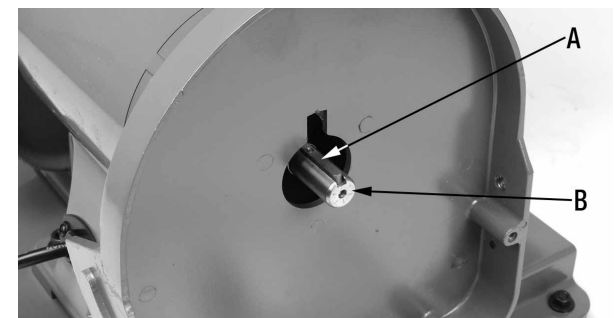

Figure 18
5. Make sure the keyway (A) Fig.18 on the motor shaft (B) is properly seated before attempting to reinstall the aluminum disc.